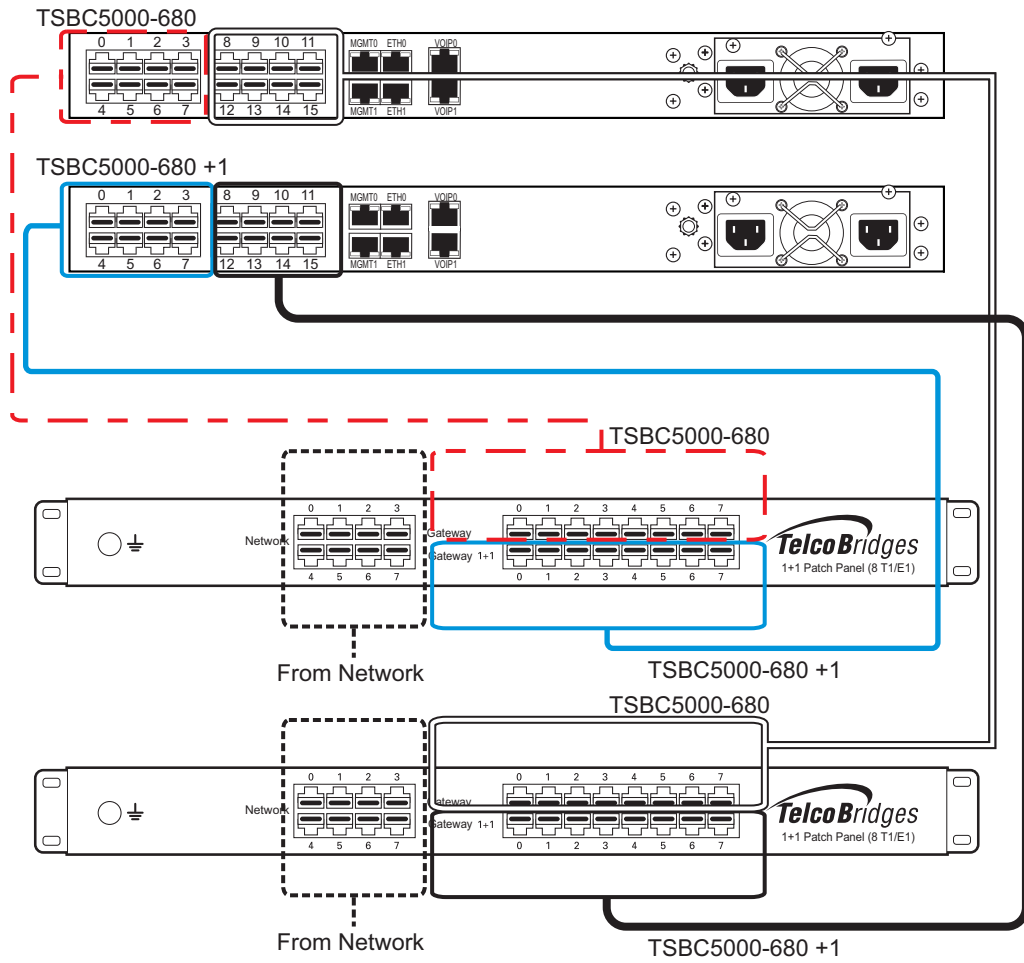

Figure 2.11 TSBC5000-680/TSBC5000-680 +1 connecting to the 1+1 patch panels (8/T1/E1)
1. Connect T1/E1 lines 0-7 of the Network section of the patch panel to the remote equipment. See figure 2.11 on page 28.